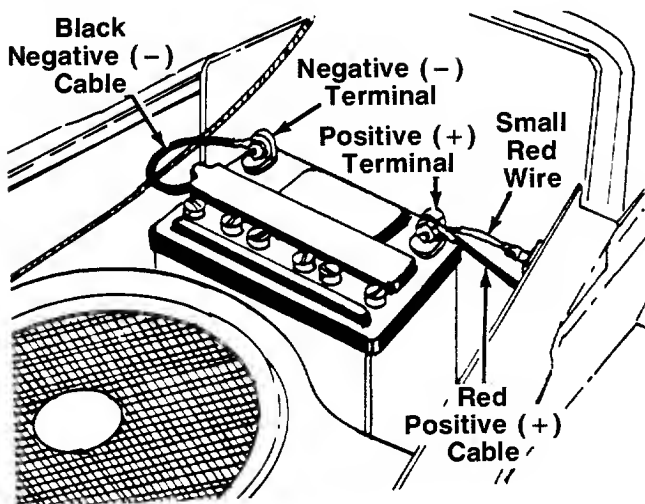

FIGURE 7.
2. Attach the positive cable (heavy red wire) and the small red wire (from the circuit breaker) to the positive battery terminal (+) with hex bolt 5/8" long, 1/4" lock washer and hex nut. See figure 7.